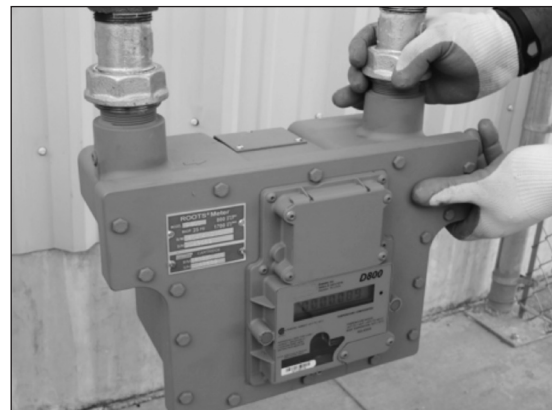

Figure 7.3 Example - Connect meter outlet to swivel nut on the downstream side
5. Connect meter outlet to the downstream side of the line as shown in Figure 7.3 Example. Hand tighten the nut to the meter spud.